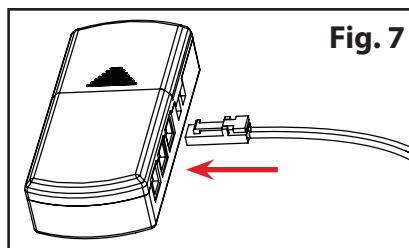

Fig. 7
10. Plug male end of Sconce Light wire into connector box or female end of LED extension. **Fig. 7**